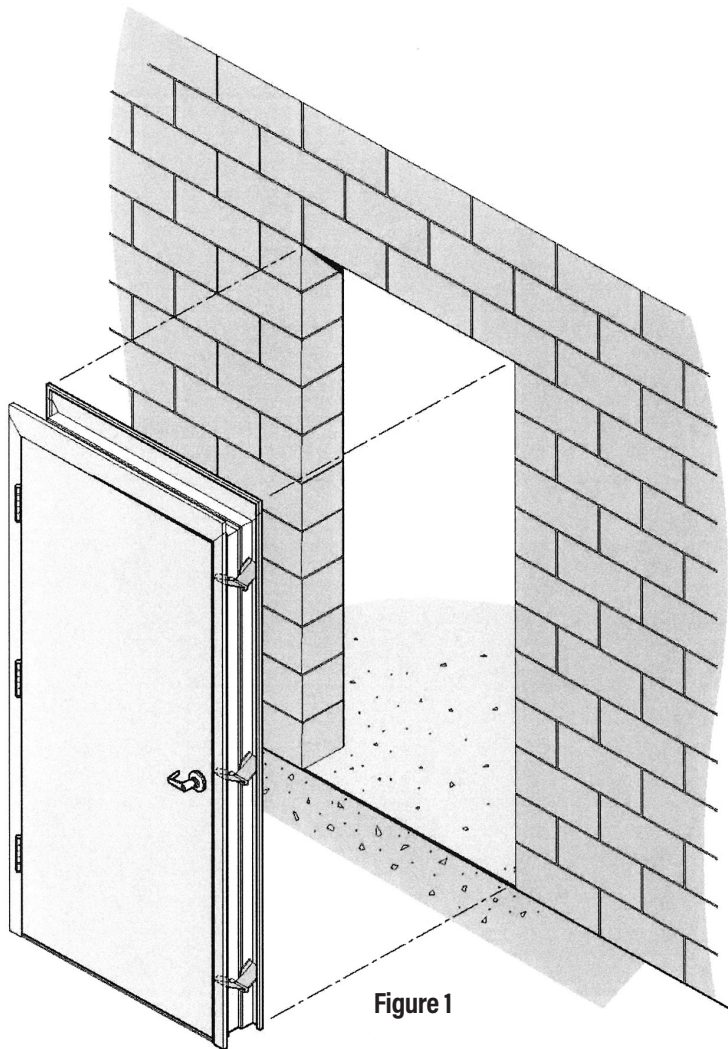

Figure 1
1. Uncrate the door, position door in place within the wall as desired. Exterior of door/frame should be flush with the outside edge of the wall. Temporally support may be needed to help hold door in place. (*Figure 1*)